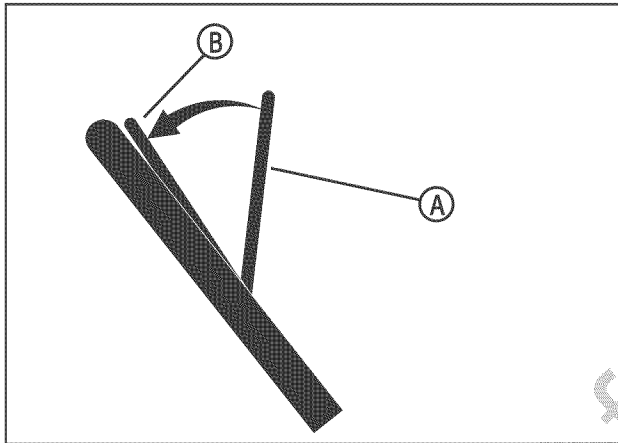

Figure 11: Operating the engine stop lever
Release the engine stop lever (A, Figure 11) and the engine and the blade will automatically stop. To run the engine, hold the engine stop lever in the Operating position (B).
1. Hold the engine stop lever (A, Figure 11) in the Operating Position (B).